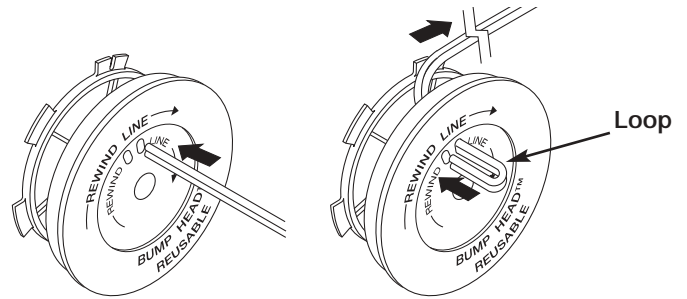

Fig. 33
- Take approximately 12 feet (3.65 m) of new trimming line. Insert one end of the line through one of the two holes in the inner reel (Fig. 33). Pull the line through the inner reel until only about 4 inches is left out.
- Insert the end of the line into the open hole in the inner reel and pull the line tight to make the loop as small as possible (Fig. 33).